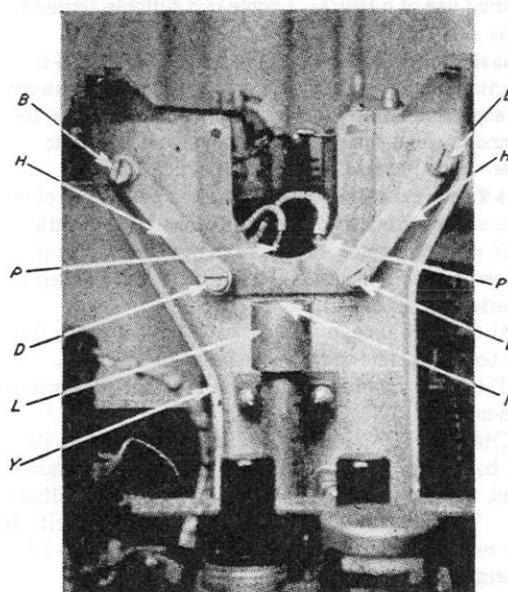
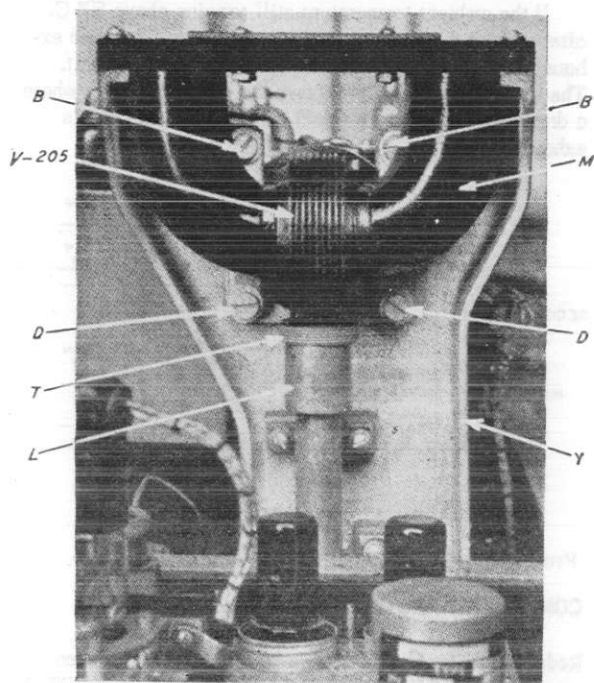

FIGURE 2.—Front view of mounting assembly for magnetron.
FIGURE 3.—Front view of magnetron assembly.
(1) Remove the two filament lead plugs P from the jacks J in the base of the magnetron, V-205 (see figs. 2 and 4).
(2) Loosen the two top clamp screws B until clear of the yoke Y and swing the clamps H sideways to release the magnetron (see fig. 2).
(3) Lift the magnetron straight up until the output probe E is clear of the coaxial line L (see figs. 2 and 4).
(1) The tube will slide easily into place if the output probe E is inserted in the center of the inner conductor I of the coaxial line L and lowered until the tube rests squarely on the top of the coaxial line L with the threaded portion T of the tube overhanging the coaxial line L evenly all around (see figs. 2 and 3).
(2) The two clamps H should then be swung into position to hold the magnetron (see fig. 2), and the top clamp screws B should be started but not tightened (see fig. 3).
(1) The clamps H should be tight enough so that the magnetron will slide easily, but not too freely.
(2) Center the magnetron on the coaxial line and raise it vertically approximately 1/32 of an inch above the coaxial line.
(3) Tighten the top clamp screws B (see fig. 3), making certain that the magnetron does not slip out of place while it is being secured.
(1) Check the magnet M for alignment with the magnetron. The pole pieces of the magnet M should line up with the sides of the magnetron, should be parallel to them and equidistant from them on both sides (see fig. 3).
f. Turn the radar equipment on, and, when the transmitter is operating, listen to see if any arcing occurs between the output probe E and the inner conductor I of the coaxial line L (see figs. 2 and 4). If no arcing occurs, the magnetron has been correctly positioned. If arcing does take place, it indicates that the magnetron output probe E is not correctly positioned with respect to the coaxial line L. In that event, secure the radar equipment, repeat steps d and f above. A slight readjustment of the position of the magnet may be required as per step e.